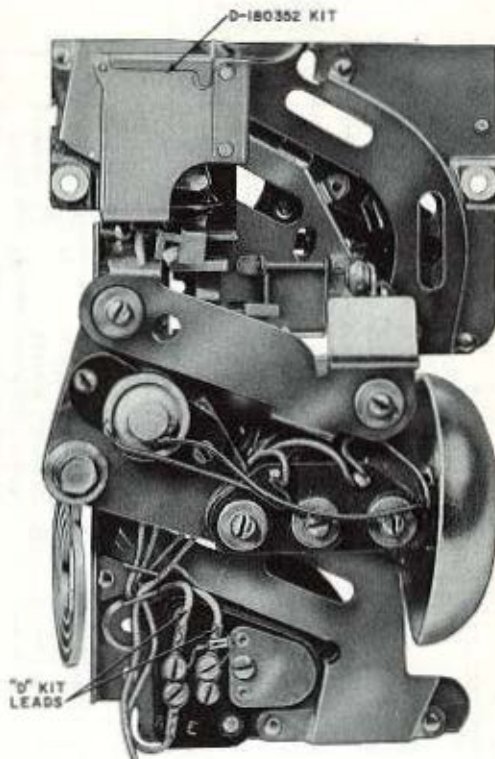

Fig. 10 — Gong Signal and Chute Assembly with D-180352 Kit Installed
3.05 Coin collectors in Automatic Nickel Local Overtime Systems must have D-180352 Kit of Parts (Fig. 10) installed on the gong signal and chute assembly.